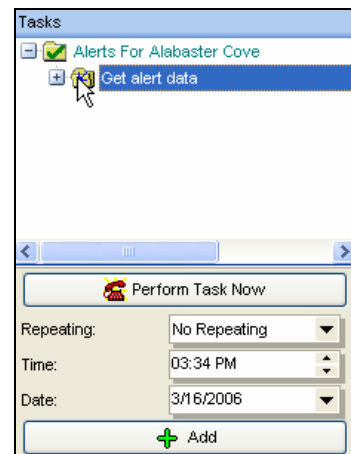

Figure 11.1.3
- Next click on the task that you want to schedule to highlight it (Figure 11.1.3).